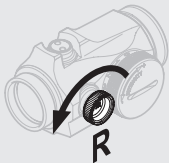
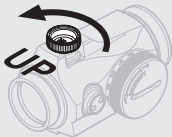

Fig. 3 Windage adjustments
Fig. 4 Elevation adjustments
- d Use the adjustment cap (1) or the tool (12 C) to turn the adjustment screws (4) and (3). Place the knobs on the adjustment cap (1) into the recesses on the adjustment screws (4) and (3).
- e** Windage adjustments (see Fig. 3):
- Turn windage adjustment screw (4) counterclockwise to move point of impact to the right.
- Turn windage adjustment screw (4) clockwise to move point of impact to the left.
- f** Elevation adjustments (see Fig. 4):
- Turn elevation adjustment screw (3) counterclockwise to move point of impact up.
- Turn elevation adjustment screw (3) clockwise to move point of impact down.